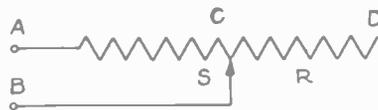
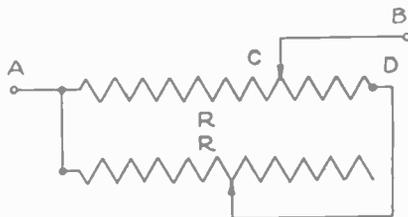
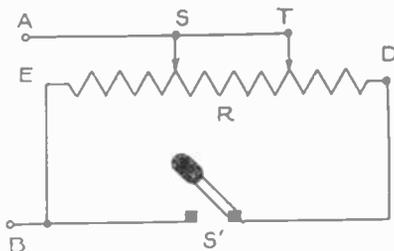

FIG 1
FIG 2
FIG 3
As illustrated in Fig. 1, the resistance (A, C, D) is varied by means of a sliding contact (S). When the contact is at the position shown the current from the terminals (A) and (B) pass in through, say, (A), through part of resistance (AC), out (S), and then to (B). It will be seen here that the length of resistance (CD) is wasted when the slider is in the position indicated. How this objectionable feature can be eliminated and a more sensitive degree of regulation procured can be seen from the figures following.
Fig. 2 shows how two resistances with sliding contacts can be used to regulate any device to a nicety. Merely moving either slider to the left increases the current flowing, and moving the two at different position introduces a fine degree of regulation which could not be obtained if the two variable resistances were connected in series with each other, as would commonly be done.
Fig. 3 represents a single resistance designed to accomplish the effects of the two rheostats in Fig. 2; an advance on that and on the single rheostat Fig. 1 used so much by experimenters.
Fig. 3 shows a resistance fitted with two variable contacts or sliders and a switch. This instrument has just been patented and is manufactured by a well known scientific firm.
(S) and (T) are the two sliders. The switch is shown as (S'). By using these three variable factors the resistance can be made to do double duty. For instance, the objectionable feature of the resistance in Fig. 1 is that when a high current is passed the resistance (A, C) is heated quite perceptibly, while the resistance (C, D) is not being used. By utilizing the scheme in Fig. 3 this unused portion can be brought into use, thereby releasing the overload to which the portion (A, C) is being subjected.
In Fig. 3, with the switch (S') closed, the current will enter, say, at (A). It will then go to slider (S), through the left-hand part of the resistance to (E), then to the other terminal of the improved instrument (B). The current will also pass through (T), through the right-handed portion of the resistance, out (D), through switch (S) and then to binding post (B), meeting the other portion of the current and combining with it. Thus a double resistance is secured with one resistance.